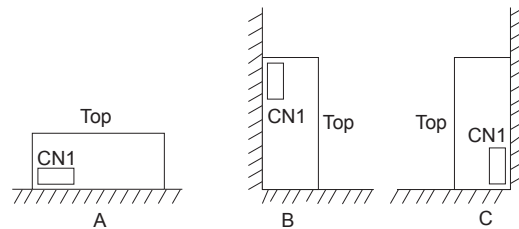

Fig. 4.3 Installation method 1
- When mounting the power supply with screws, it is recommended that this be done as shown in Fig. 4.3. If other methods are used, be sure the weight of the power supply is taken into account.